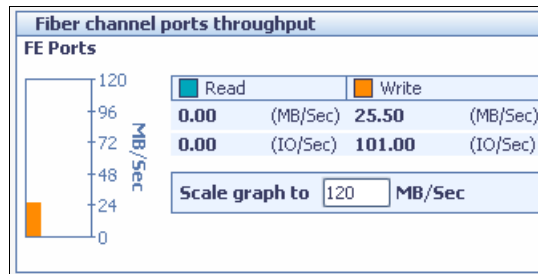

Figure 12-26 Fibre Channel Ports Throughput pane: Nodes window in ProtecTIER Manager
The Fibre Channel (FC) Ports Throughput pane displays the rate of data movement and I/O operations for both read and write operations for the node (Figure 12-26). The data movement rate is also displayed graphically for each front-end Fibre Channel port on the node. The bars will be colored blue (for read) or orange (for write). There is enough space for four bars to be displayed at once in the bar graph, one bar for each FC port.